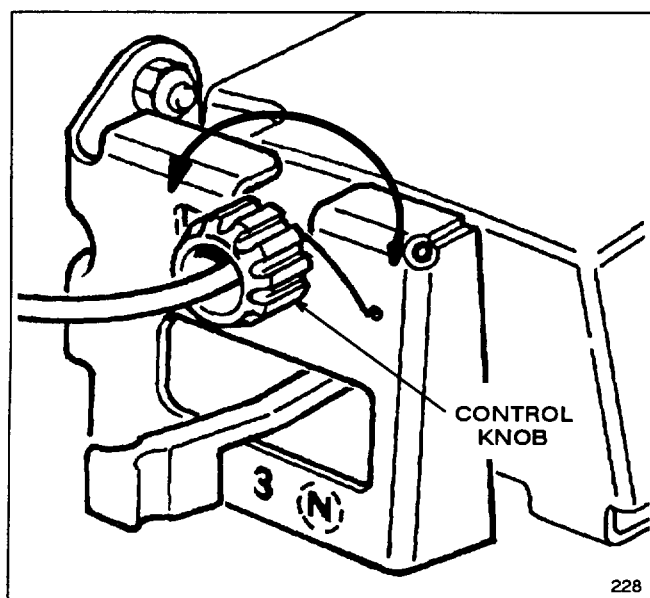

Figure 21
2. ADJUSTMENT (Fig. 21)—Rotate control knob clockwise 1/2 turn if mower does not self-propel. If mower creeps forward, rotate knob 1/2 turn counterclockwise to loosen belt.